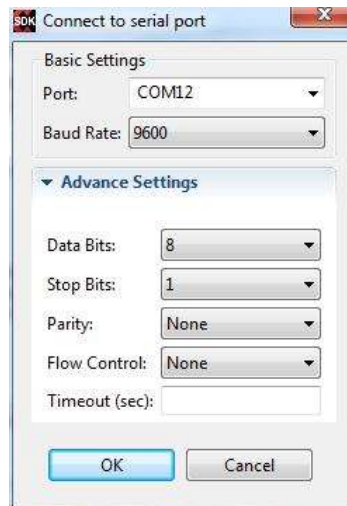

Figure 42: Connect to Serial Port Dialog Box
4. In the **Connect to serial port** dialog box, select the right COM port (may vary on your system) and make sure the parameters are set up similar to Figure 42. Click **OK**.